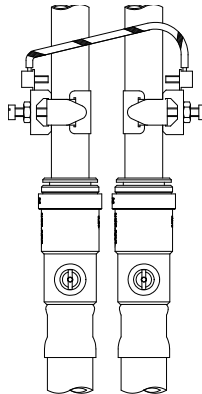

Figure 12
- **Adjacent pipes:** Adjacent suction and delivery pipes should be fitted with earthing clamps and connected with earthing wire size 4 mm² (Figure 12).